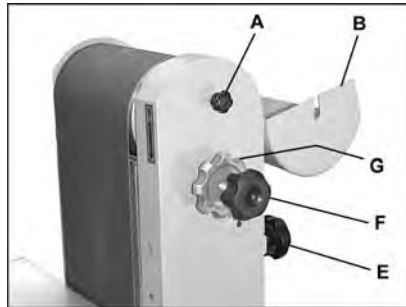

Fig 14
Loosen the knob (A, Fig 14) and swing the belt end cover (B) out of position.
Release the belt tension on the tension handle (E, Fig 14).
Release the tracking lock nut (G, Fig 14)
The blade tracking is now adjustable by turning the micro adjusting screw (F, Fig 14).